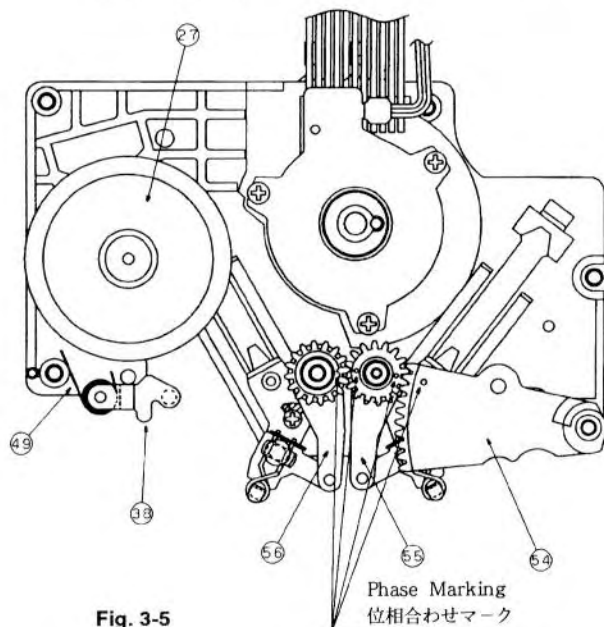

Fig. 3-5
- See that the phases of the Gear Arm, L1 (IN) Arm, and L1 (OUT) Arm are matched with each other, as shown in Fig. 3-5.
- Gear Arm, L1 (IN) Arm, L1 (OUT) Armの位相はFig. 3-5を参照。